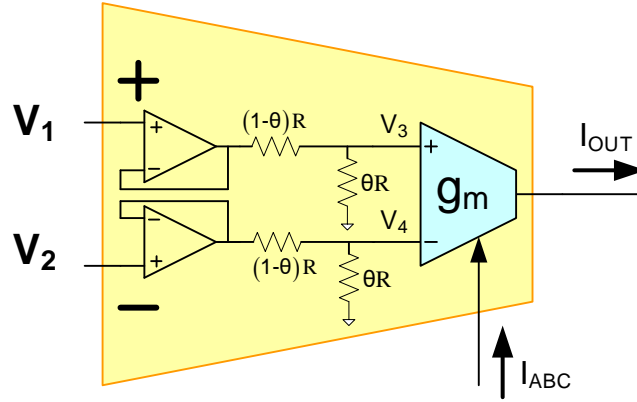

Fig. 1 Equivalent OTA
The commercial OTAs typically use a differential amplifier at the input so when operating open-loop the signal swing at the input terminals is quite limited. In this experiment we will create an OTA that provides for large differential inputs to make measurements easier. The OTA we will create is shown in Fig. 1. The commercial OTA shown in teal color is a commercial OTA. We will use the LM 13700 in this experiment. There are three terminals (not including the biasing voltages V_{DD} and V_{SS} and the adjustment current I_{ABC}) for the Equivalent OTA, specifically the V_1 and V_2 input terminals and the output terminal which shows an output current I_{OUT} on this terminal. The output current of this equivalent OTA is given by the expression
- Experimentally verify the operation of this programmable filter (Remember to use the Equivalent OTAs of Fig. 1.)